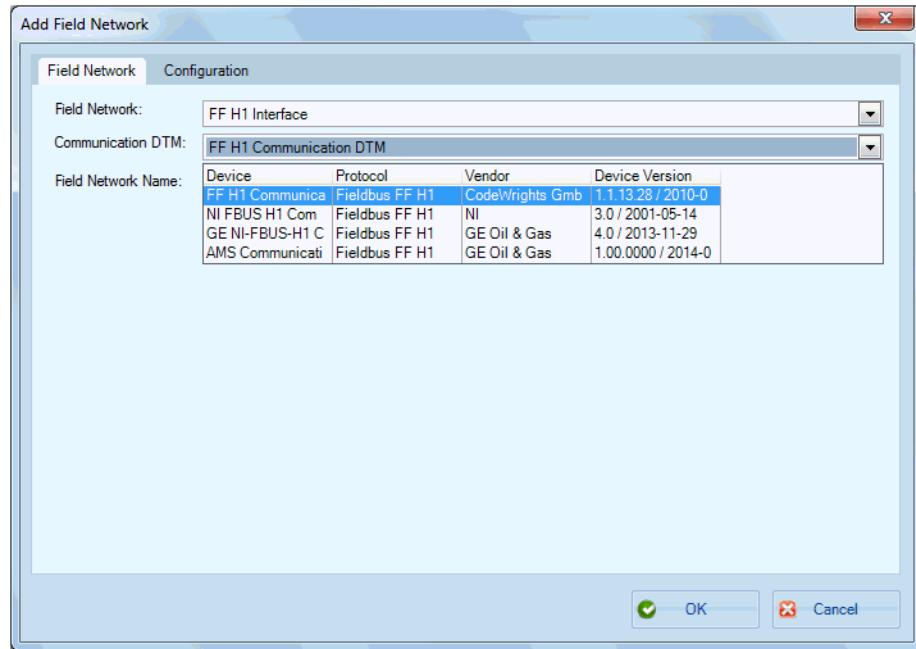

Figure 115 Add a Field Network with AMS Communication DTM
3. Select the ValVue3 device network level, right-click and select **Add a Field Network** and Figure 115 appears.